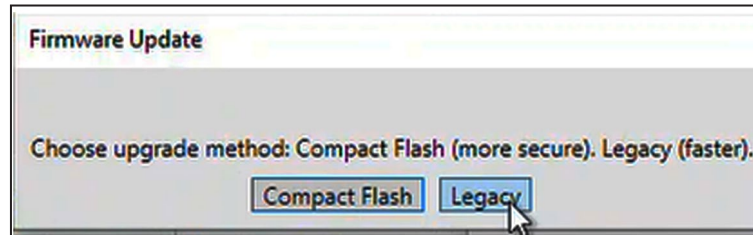

Figure 19. The Firmware Update dialog box update method choice.
STEP 8. The Firmware Update dialog box will prompt for selection of the update method. Click on one of the options to proceed. See Figure 19.